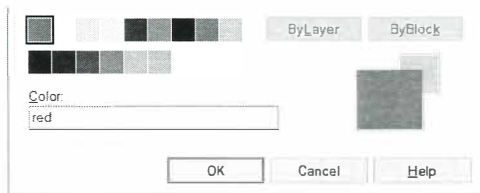

Figure 7–9
4. To set the **Color**, select the color swatch for that layer, select a color in the Select Color dialog box (as shown in Figure 7–9), and click **OK**.
5. To set the **Linetype**, select the linetype name for that layer, select a different linetype in the Select Linetype dialog box (as shown in Figure 7–10), and click **OK**.